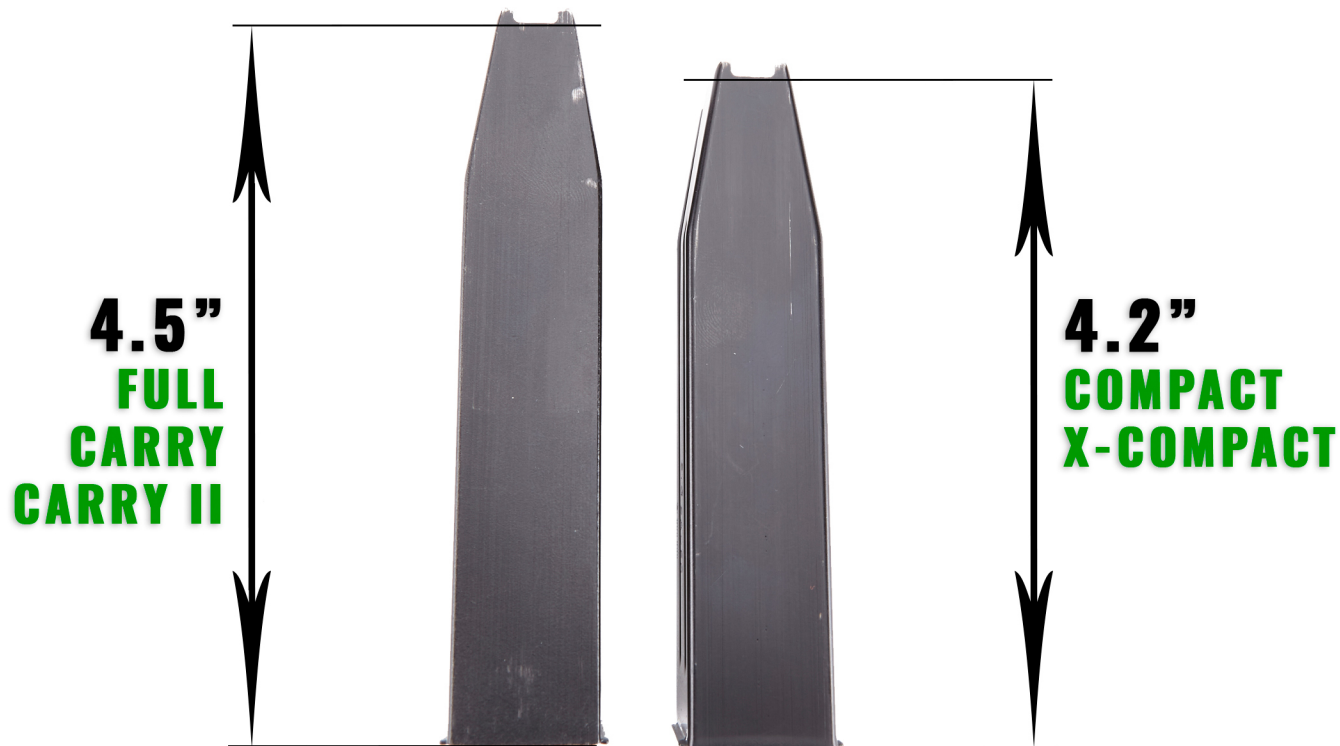

FIGURE 2.2
* SEE FIGURE 2.2 FOR HOW TO MEASURE YOUR MAGAZINE TUBE
No. New SIG Factory X-Series Basepads are available at ShopWilsonCombat.com, Item# NW736, or else a competent gunsmith can modify the old basepads by removing the "ears" to make them work with the WCP320 grip module. See FIGURE 2.2 for more details.